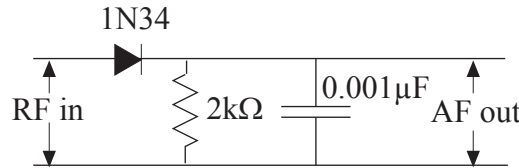

Figure 9-15 Filtered detector
This is still a radio-frequency signal at a much higher frequency than the audio signal. If we now add a capacitor in parallel with the 2k resistor, (Figure 9-15), the capacitor and resistor form a simple low pass filter and we have our complete detector. The filter removes out the radio-frequency part of the signal and only lets through the much slower audio-frequency (AF) voltage.